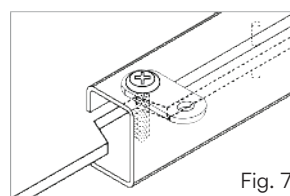

Fig. 7
Cut off 20 x 20mm from screen corner if attaching through plastic corners as in Fig. 7
- Use the 10 supplied flat brackets to secure the frame to your support structure. Ensure brackets are positioned in areas to coincide with the panel notches (**Fig. 7**).